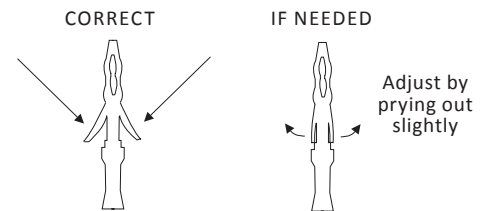

Figure 4-5
- Examine the retaining flanges on the pin, as they may have become damaged during the process of routing the harness through the vehicle. These retaining flanges are crucial to securing the pins inside the connector. Adjust these flanges as needed. **See Figure 4-5.**